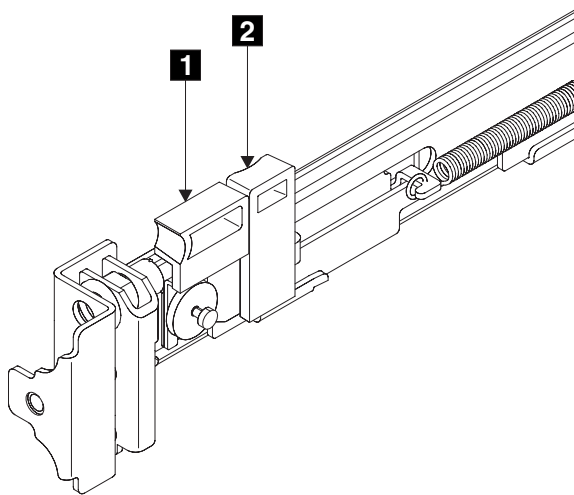

Figure 125. Retracting the latch lock carrier
4. Put your finger against the side of the latch lever **1**, and put your thumb against the front of the latch lock **2** (see Figure 125).